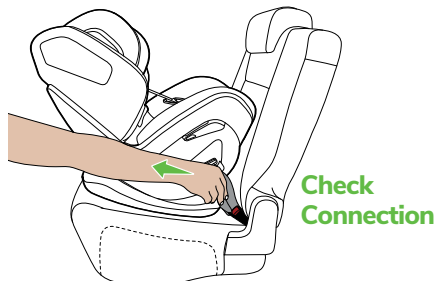

Figure 13
Step 2. Pull to check connection (Figure 13).